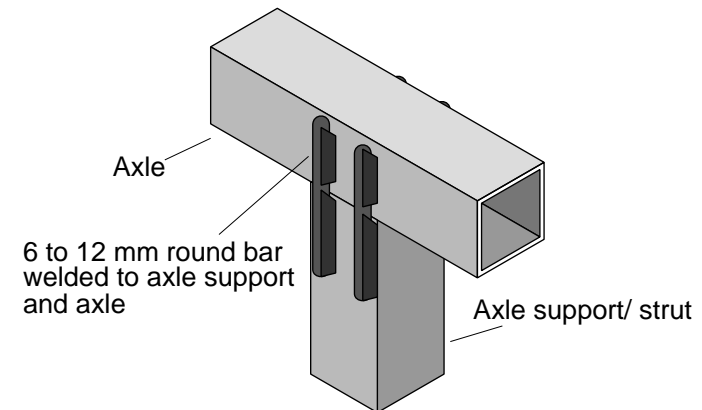

Figure 4: method of fixing axle to axle supports.
- 4) Next weld the axle on using the method shown in Figure 4. Here small pieces of round bar eg 12 mm are welded across the join. If you do it like this you can easily remove the axle just by cutting the rod. This is much easier than grinding welds away. Alternatively you can bolt the axle on